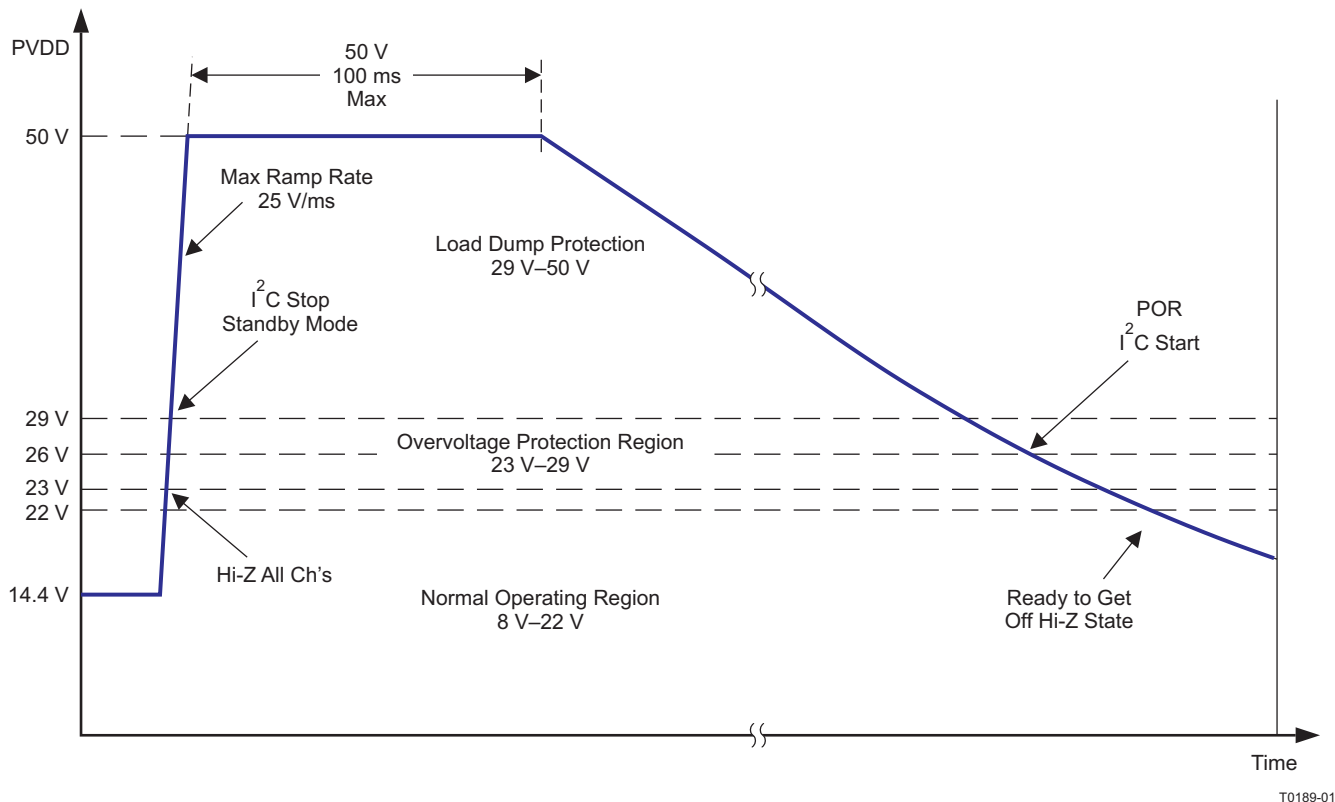

Figure 15. Voltage Operating Regions With Load Dump Transition Defined
6. **Undervoltage (UV) and Power-on-Reset (POR)**—The undervoltage (UV) protection detects low voltages on PVDD, AVDD, and CP. In the event of an undervoltage, the FAULT pin is asserted and the I²C register is updated, depending on which voltage caused the event. Power-on-reset (POR) occurs when PVDD drops low enough. A POR event causes the I²C to go into a high-impedance state. After the device recovers from the POR event, the device must be re-initialized via I²C.
7. **Overvoltage (OV) and Load Dump**—The OV protection detects high voltages on PVDD. If PVDD reaches the overvoltage threshold, the FAULT pin is asserted and the I²C register is updated. If the voltage increases beyond the load dump threshold of 29 Vdc, the device shuts down and must be restarted once the voltage returns to a safe value. After the device recovers from the ≈ load dump event, the device must be re-initialized via I²C. The TAS5414 and TAS5424 can withstand 50-V load-dump voltage spikes (see Figure 15). Also depicted in this graph are the voltage thresholds for normal operation region, overvoltage operation region, and load-dump protection region. Figure 13 shows the regions of operating voltage and the profile of the load dump event. Battery charger voltages from 25 V to 35 V can be withstood for up to 1 hour.